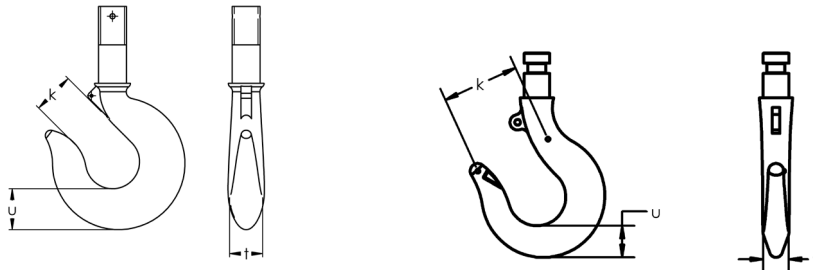

Figure 5-7 Measuring ¼ - 1 t lower hooks (black)
*This hook is measured differently, see Figure 5-7